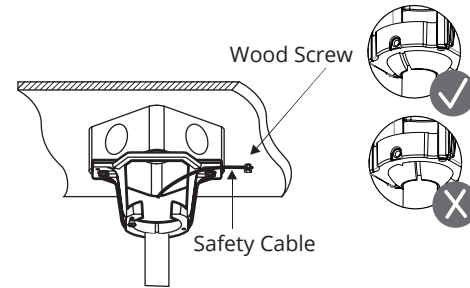

FIGURE 11
3. Carefully lift the fan motor assembly up to the mounting bracket and seat the hanger ball in the mounting bracket socket. Make sure the tab on the mounting bracket socket is properly seated in the groove in the hanger ball (Fig. 11). Rotate the socket assembly until the ball drops and locks into the hanger bracket screw.
4. Secure the safety cable to the building structure using a wood screw (Fig. 11).